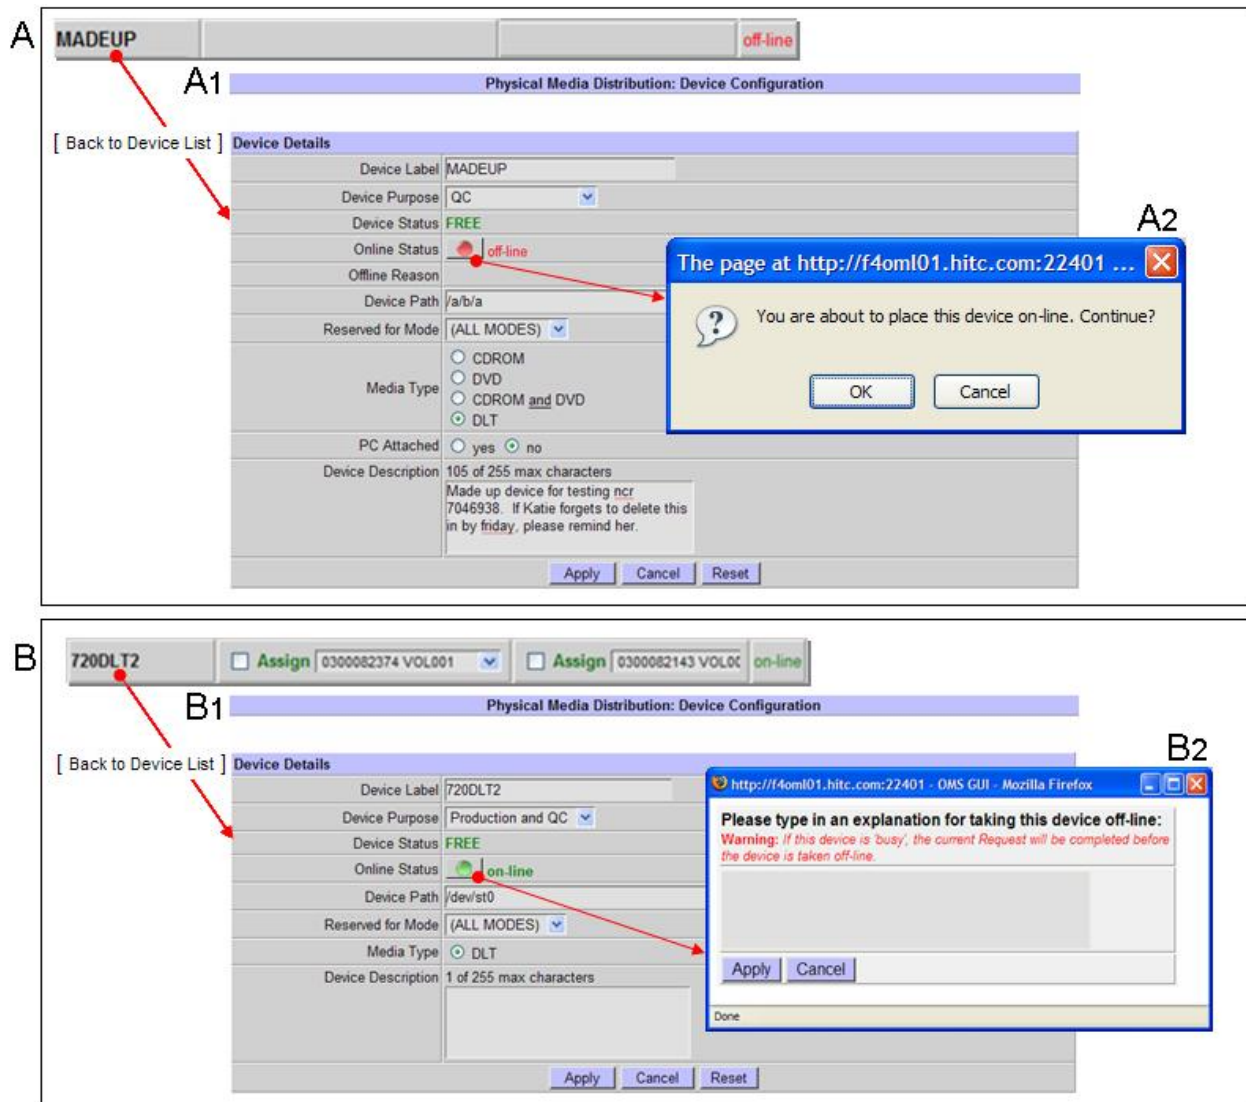

Figure 15.12-13. PMD Device Details Page
- ▶ Click the **Device Label** (Figure 15.12-13, Frame A or B) of the device on the **PMD: Device Configuration** page.
- A dialog box displays **confirmation to place device on-line** (Figure 15.12-13, Frame A2) or displays a **request for taking this device off-line** (Figure 15.12-13, Frame B2).